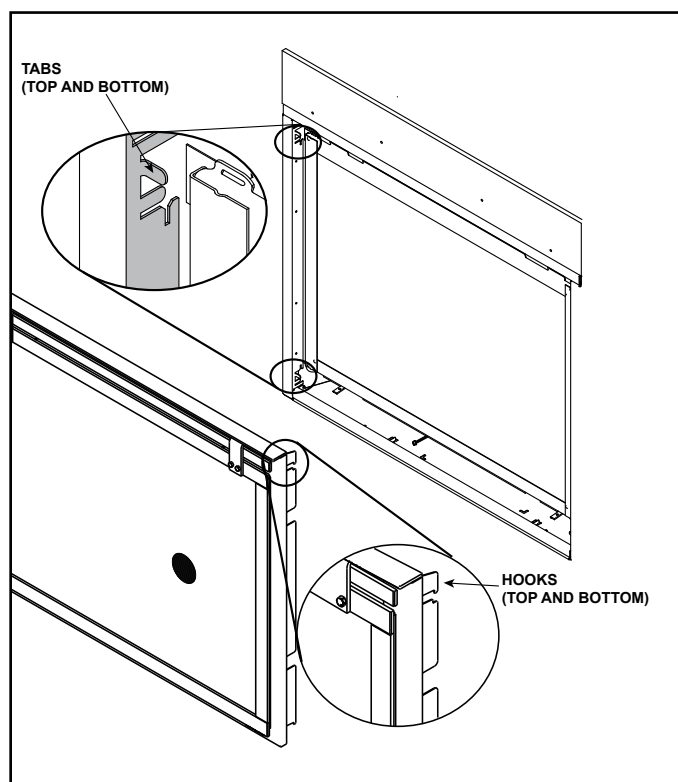

**Figure 2 Hanging Tab and Hook Locations
2. The decorative front is installed by engaging top and bottom hooks on the front with top and bottom tabs on the appliance. See Figure 2. Align the bottom hooks on the decorative front with the bottom tabs on the appliance. Set the bottom hooks on the tabs and tilt the front toward the appliance until it contacts the top tabs. Once the decorative front contacts the top tabs, lift up slightly and push decorative front toward appliance until hooks and tabs are engaged.